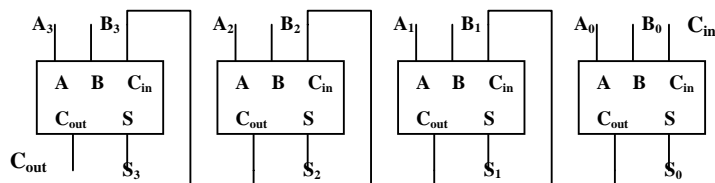

Figure 1: Block Diagram of a 4-bit Ripple Carry Adder
5. In the *RCA_4bit.v* file, declare the top level module of the 4-bit RCA, listing and declaring properly all the input and output wires. There should be 9 input wires (4 inputs + 1 Carry-in) and 5 output wires (4 sums and 1 Carry-out). This module will implement the functionality described by Figure 1.
any one of the 4 blocks shown in Figure 1. (For help with this, refer to Lab Guide, Verilog Chapter, Section 3.2)
7. Make sure to connect the input and output wires of all the *FullAdd* module instantiations properly, as shown in Figure 1.